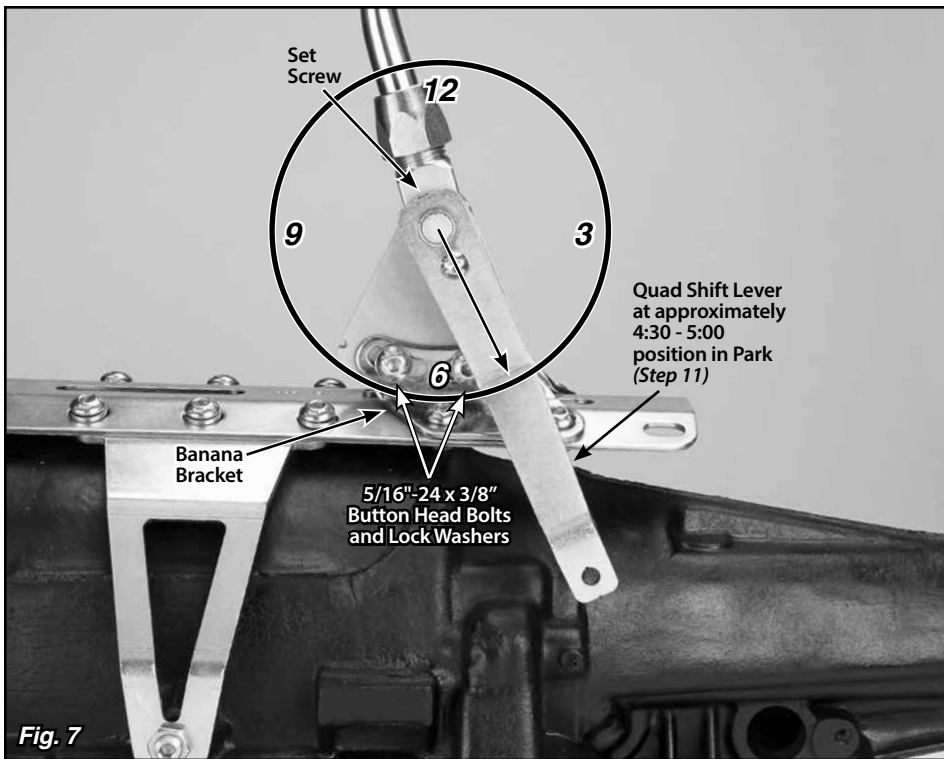

Fig. 7
Step 11: Make sure the two 5/16"-24 x 3/8" button head bolts and lock washers that attach the driver side banana bracket to the shifter assembly (in the curved, slotted holes) are tight. Before tightening the shifter assembly to the main plate, move the shifter lever through all the gear positions. Make sure the shifter lever and knob do not come in contact with the dash or the seat. The shifter assembly can be tilted forward or backward if needed by loosening the 5/16"-24 x 3/8" button head bolts and lock washers in the curved, slotted holes in the driver side banana bracket. **Fig. 7**
Step 12: Make sure the shifter lever is in the Park position. Temporarily place the quad shift lever in position on the quad lever bushing as shown in **Fig. 7**. Check for interference with the vehicle floor. With the shifter lever in Park, the quad shift lever should be pointing towards approximately the 4:30 – 5:00 position.